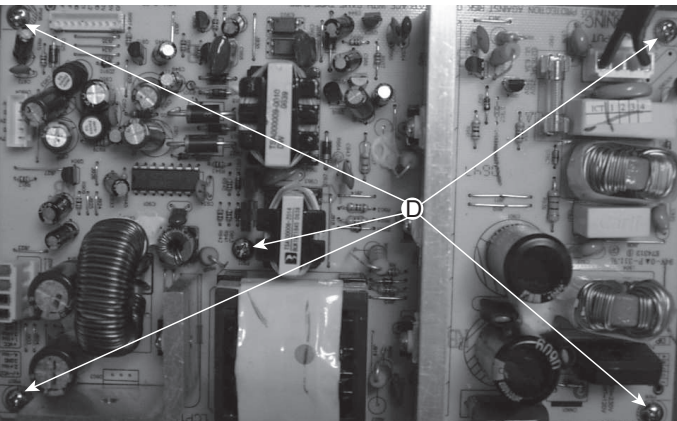

Figure 7
- 1) Loosen 5 screws “D” on the top of the Power Board as shown in figure 7